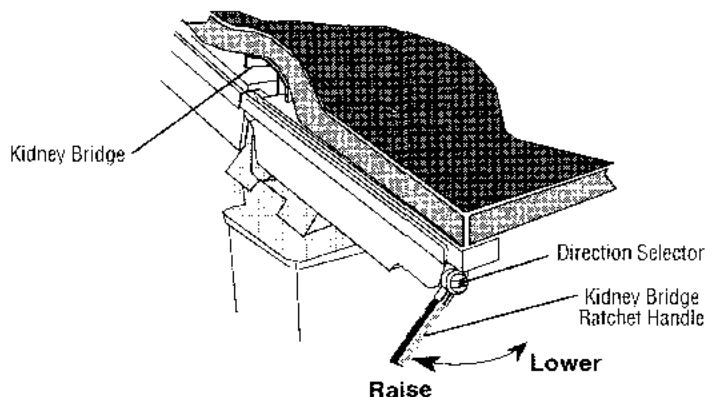

Figure 4-8. Kidney Bridge Adjustment
1. Locate the kidney bridge ratchet handle (under left side of back section) and flip it down (spring-loaded). See Figure 4-8.